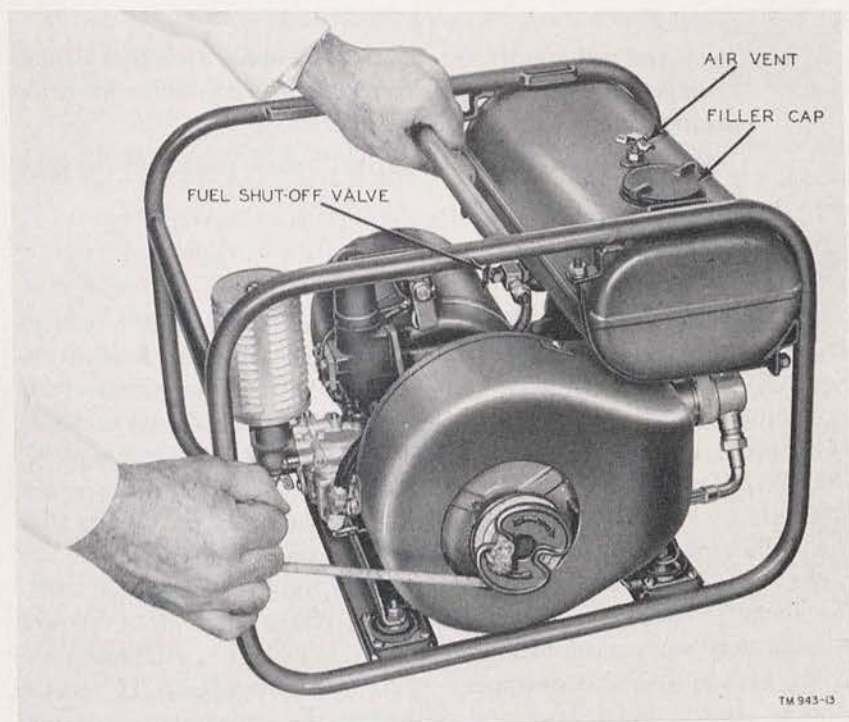

Figure 13. Cranking Engine Generator PU-181/PGC-1.
- b. Open the air vent and fuel line shut-off (fig. 13).
- e. Make certain the fuel line packing nuts are drawn up tight, as an air leak will prevent a full charge of gasoline from entering the engine and will affect carburetion. Check all connections, including the fuel line shut-off (fig. 13). Periodically tighten all connections.